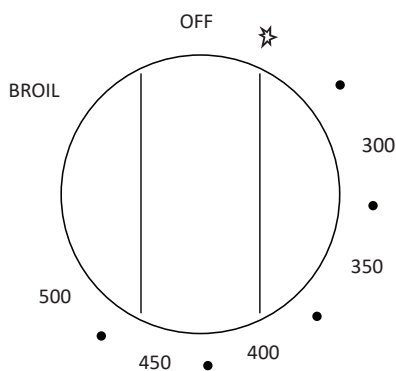

Figure 14: Oven temp knob
2. Turn the oven temp knob to the Broil position (Figure 14). For optimum results, preheat broil for 10 minutes before adding food.